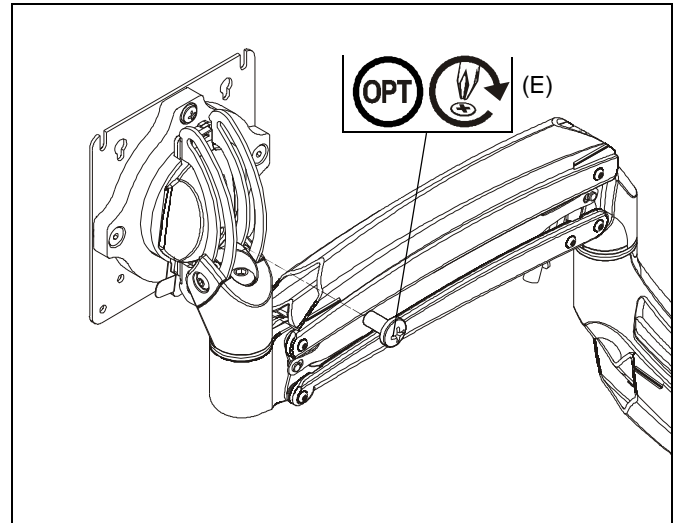

Figure 10
NOTE: In order to prevent display from being easily removed from mount using the quick release lever, install M4x4mm security screw (E) into lower hole on back of faceplate. (See Figure 10)